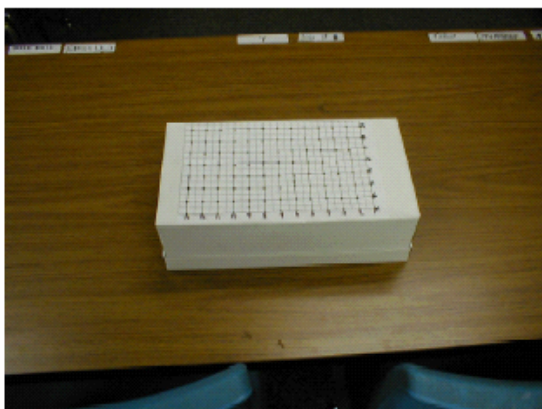
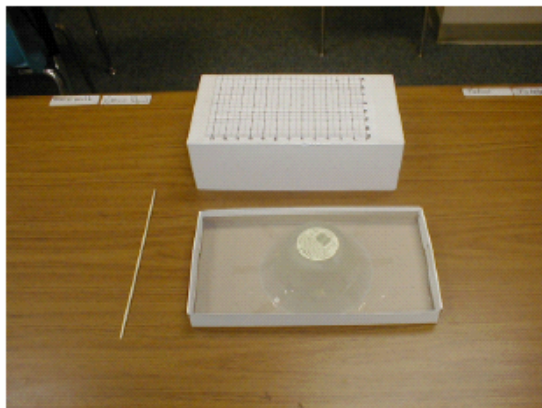

Figure 2
Figure 1
1. Collect one shoebox for each team. Tape or glue a copy of the Bathymetry grid on top of the box. Place a common object, like a bowl or a rectangular plastic container, inside the box. Keep the object simple. More complex objects require precise measurements. I suggest taping the object to the base of the shoebox. This will prevent the object from sliding around when the box is moved. (*see figure 1 and figure 2*)
(Refer to figure 1 to see the real object in the shoebox.)